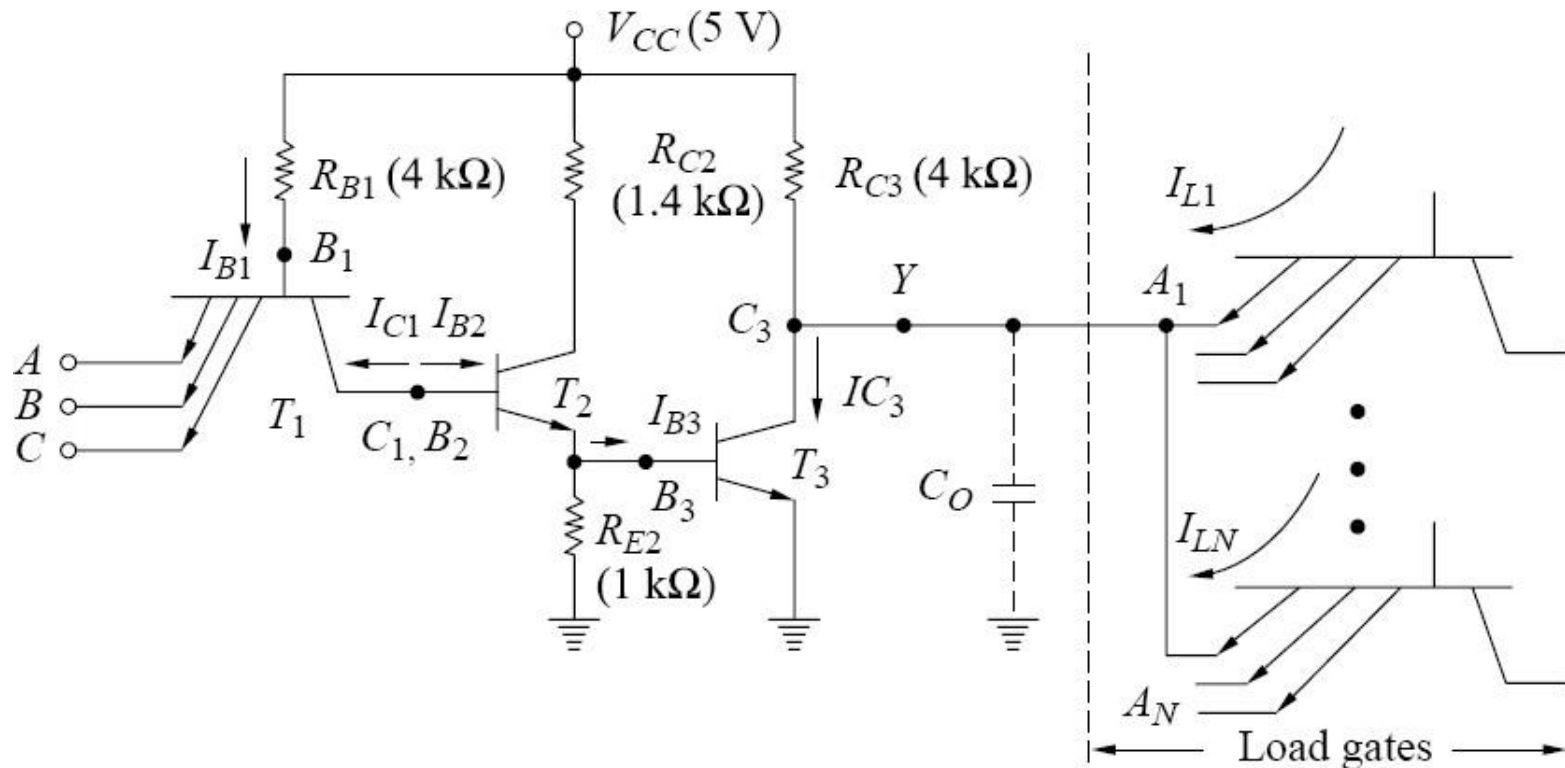

Fig. 4.16
The above operation shows that the gate of Fig. 4.16 operates as a NAND gate. From conditions I and II, it appears that  $T_1$  is acting as back-to-back diodes. The importance of  $T_1$  will become clear from condition III.
**Condition III** Let the circuit be operating under condition II when one of the inputs suddenly goes to  $V(0)$ . The corresponding emitter–base junction of  $T_1$  starts conducting and  $V_{B1}$  drops to 0.9 V.  $T_2$  and  $T_3$  will be turned off when the stored base charge is removed. Since  $V_{C1} = V_{B2} = 1.6$  V, therefore the collector–base junction of  $T_1$  is back-biased, making  $T_1$  operate in the normal active region. This large collector current of  $T_1$  is in a direction which helps in the removal of stored base charge in  $T_2$  and  $T_3$  and improves the speed of circuit. The direction of the collector current is same as the current  $I_{C1}$  shown in Fig.4.16. The output voltage is pulled-up by the time constant  $T = R_{C3} \cdot C_o$ . Resistance  $R_{C3}$  is known as *pull-up resistor*.